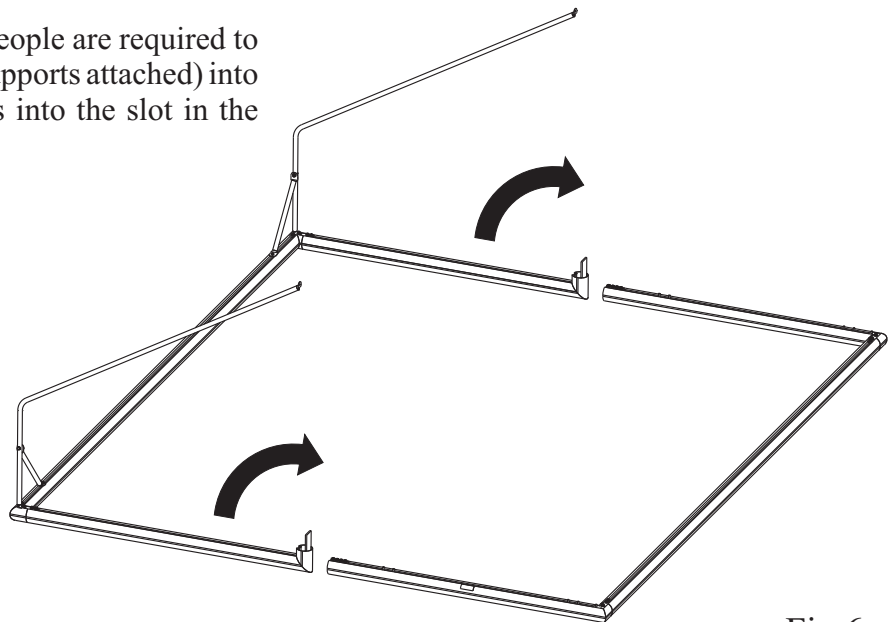

Fig 6
**Join the Uprights to the Sidebars** - 2 people are required to lift the Upright (with Crossbar and Net Supports attached) into the vertical position and slide the plates into the slot in the Sidebar, as shown in Figs 6 & 7.